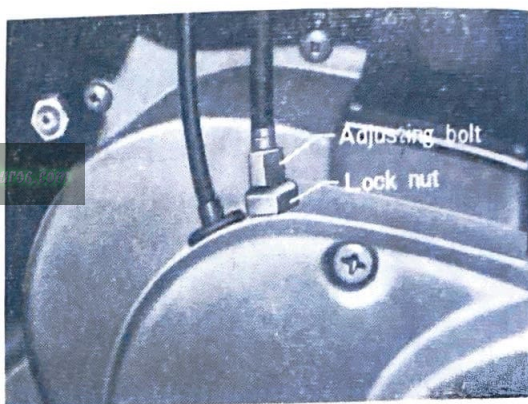

Fig. 3-9-15
c. Adjustment (Fig. 3-9-15)
- 1) Loosen the lock nut (a) fitted on the crankcase cover (R).